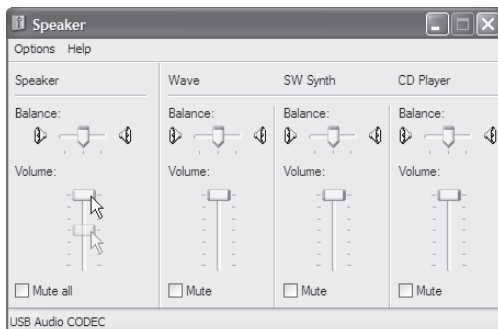

Figure 7
6. The volume can then be set by dragging the Volume slider (figure 7).